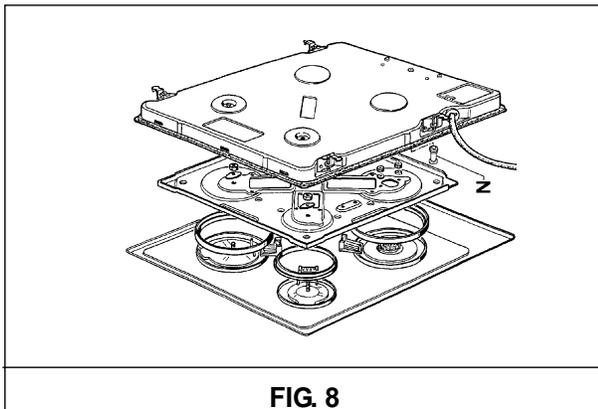

FIG. 8
a) Remove the hotplate from the top of the cabinet, overturn it, unscrew screw "Z" and remove under part (see fig. 8).
For access to the various parts, remove the hotplate from the top of the cabinet. Then overturn it, unscrew screw "Z" and remove under part. (see fig. 8).